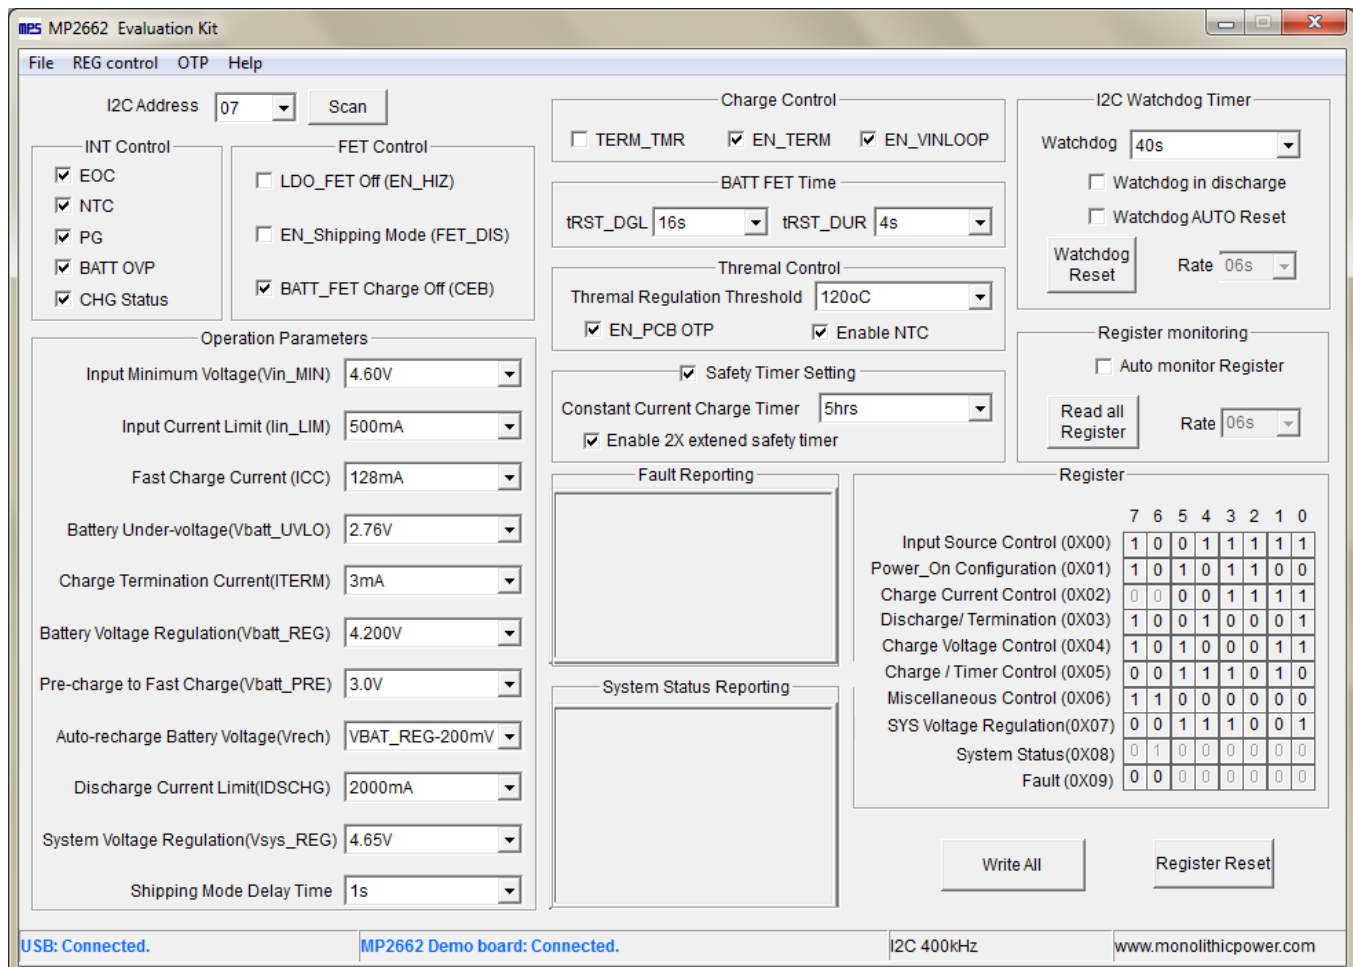

Figure 3: MP2662 evaluation interface
5) Turn on the computer. Launch the MP2662 evaluation software. The main window of the software is shown in Figure 3.